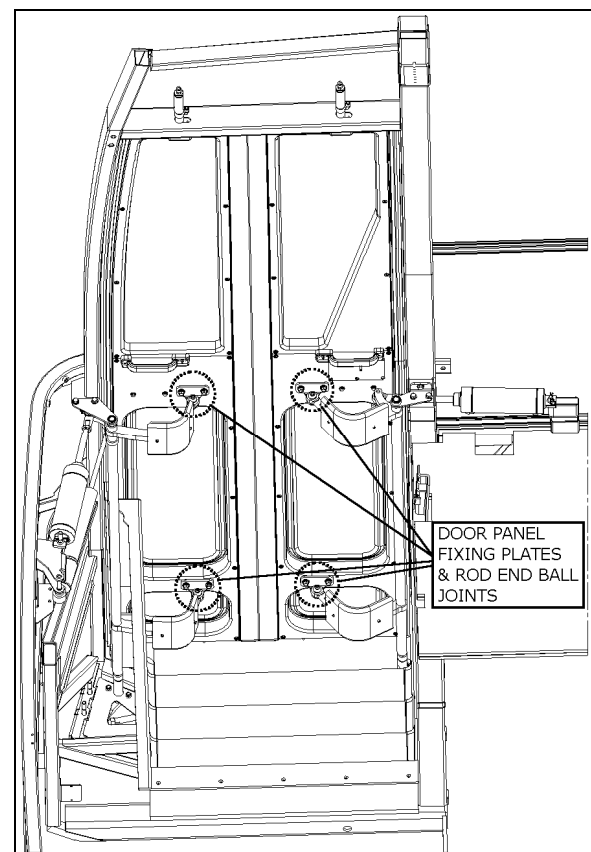

FIGURE 24: DOOR PANEL ADJUSTMENTS
2. Unfasten the bolts fixing the door panel plates. See figure 24